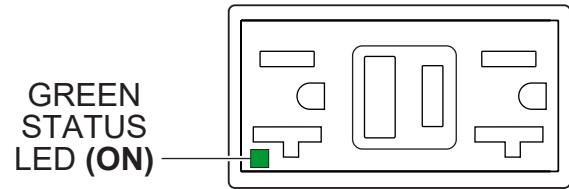

Figure 49. GFCI Receptacle (ON)
3. Verify that the status LED on the corresponding GFCI receptacle (Figure 49) is **ON (GREEN)**.